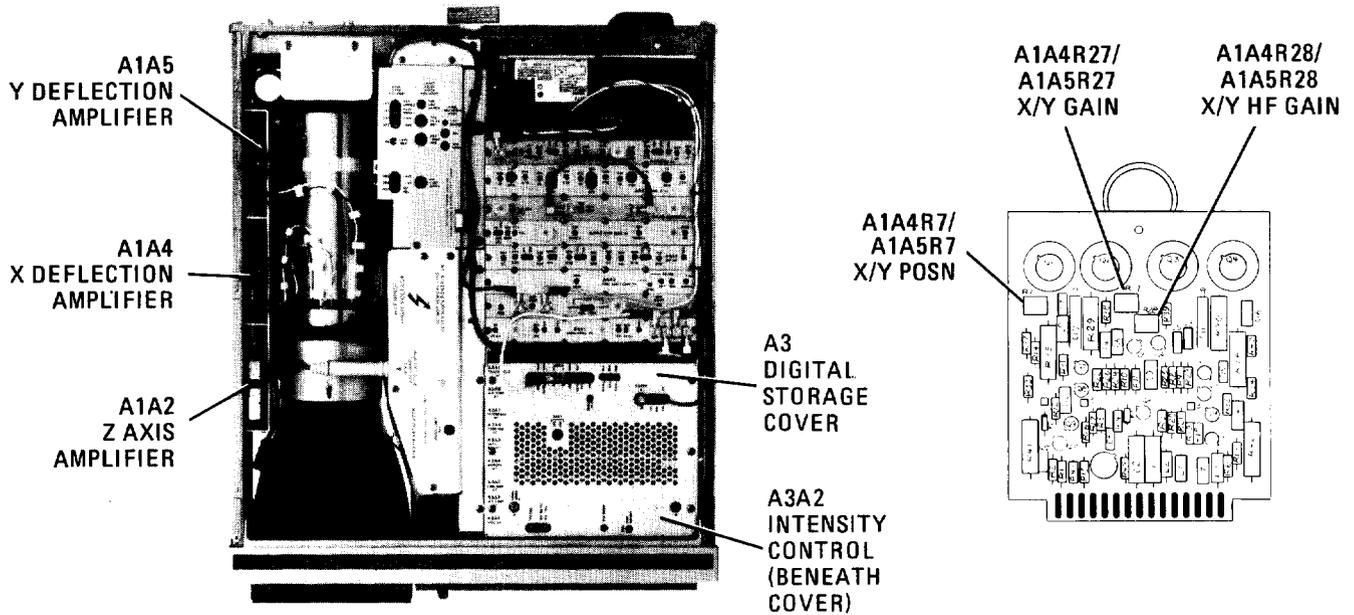
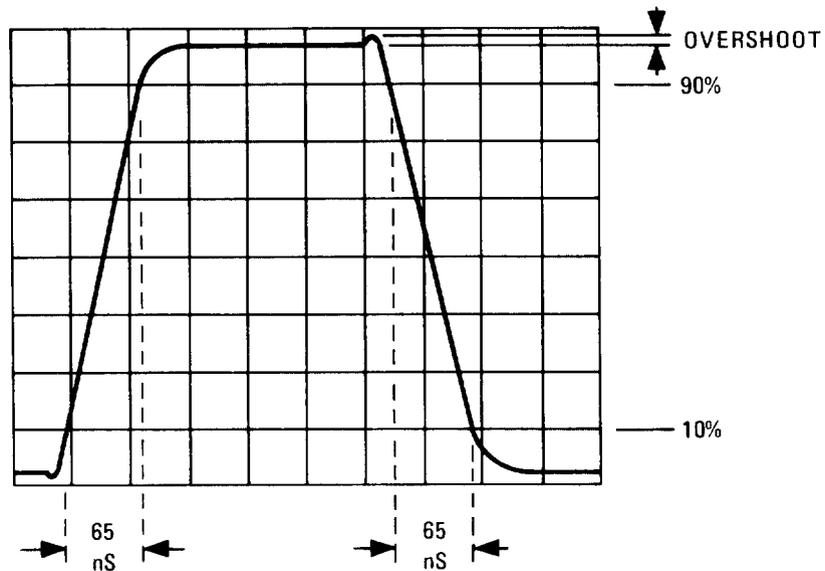
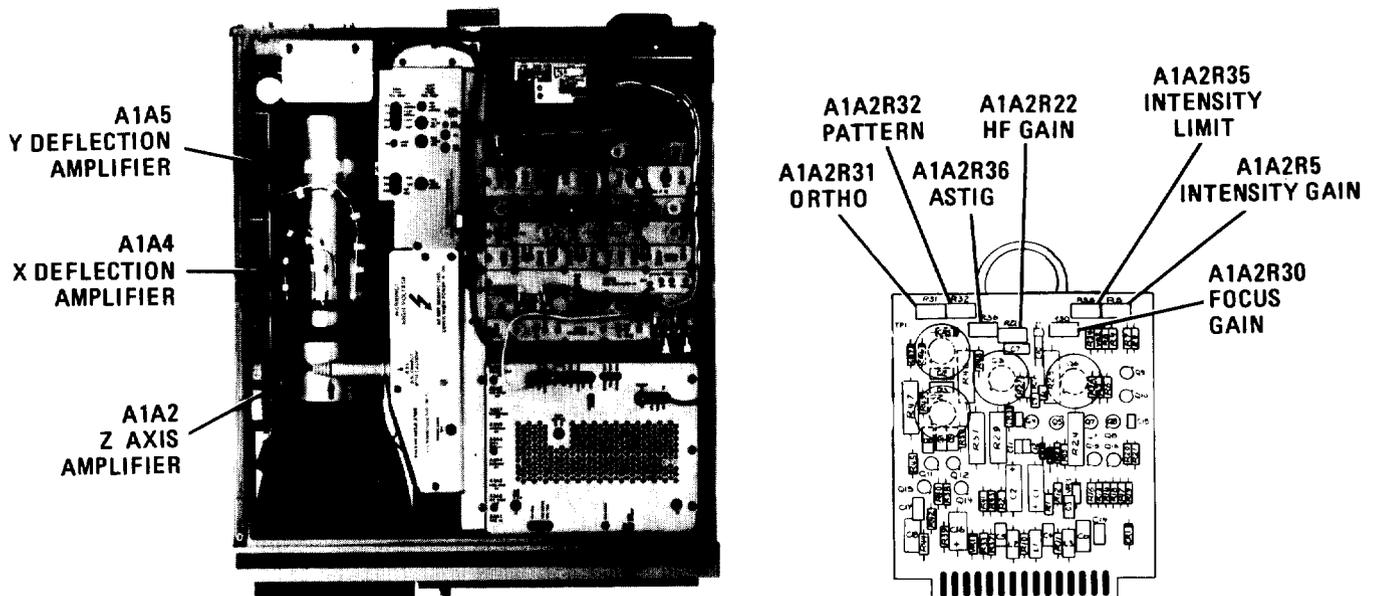
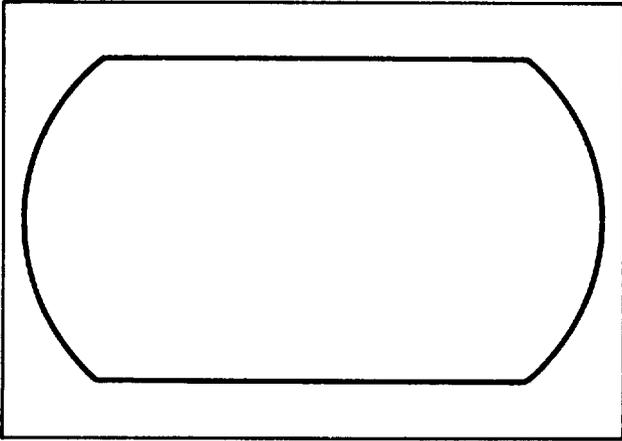

FIGURE 9. LOCATION OF X AND Y ADJUSTMENTS
FIGURE 10. RISE AND FALL TIMES AND OVERSHOOT ADJUSTMENT WAVEFORM
FIGURE 11. LOCATION OF Z ADJUSTMENTS
FIGURE 14. EXAMPLES OF PIN CUSHIONING AND BARRELING
- Remove cover over A3 Digital storage Section and remove A3A2 Intensity Control. Insert Display Adjustment PC Board (HP Part Number 85662-60088) in place of A3A2. Install A1A2 Z Axis Amplifier on extender board. Refer to Figure 9 for location of A3A2 assembly.
- Adjust A1A4R7 X POS and A1A4R27 X GAIN for a full eight-division display on oscilloscope as shown in Figure 10. Refer to Figure 9 for location of adjustments.
- Measure the rise and fall times between the 10% and 90% points on the display by noting where the trace crosses the first and seventh horizontal graticule lines. Refer to Figure 10.
8. Adjust oscilloscope VOLTS/DIV vernier for a full eight-division display. Refer to Figure 10.
9. Measure the rise and fall times of the pulse between the 10% and 90% points by noting where the trace crosses the first and seventh horizontal graticule lines. Refer to Figure 10.
10. Adjust A1A2R22 HF GAIN and A1A2C10 for minimum overshoot and minimum rise and fall times. Refer to Figure 10. Refer to Figure 11 for location of adjustments.
17. Adjust oscilloscope VOLTS/DIV vernier for a full eight-division display. Refer to Figure 10.
26. Adjust A1A2R30 FOCUS GAIN for a 1V peak-to-peak pulse display on oscilloscope. Refer to Figure 11 for location of A1A2R30.
5. Adjust A1A4R27 X GAIN and A1A4R7 X POS to set the horizontal trace to the approximate position shown in Figure 13. Refer to Figure 9 for location of adjustments.
7. Adjust A1A2R31 ORTHO for a vertical trace. Refer to Figure 11 for location of adjustment.
8. Adjust A1A5R27 Y GAIN and A1A5R7 Y POS to set the vertical trace to the approximate position shown in Figure 13. Refer to Figure 9 for location of adjustments.
11. Adjust A1A2R32 PATT for best rectangular display. Display should not exhibit pin cushioning or barreling. Refer to Figure 14. It may be necessary to readjust A1A2R31 ORTHO and front-panel ALIGN controls to achieve optimum rectangular display. Refer to Figure 11 for location of adjustments.